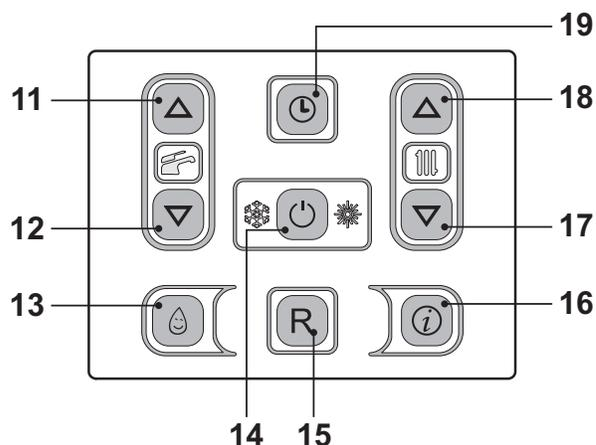
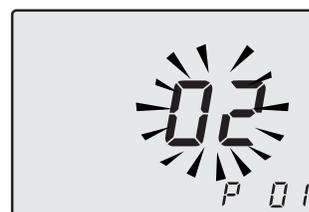

Fig. 7.28
Fig. 7.29
- Enter in "programming mode" by pressing keys 14 - 17 - 18 (Fig. 7.28) for 10 seconds at the same time until the letters **P01** are displayed on the LCD display, indicating that "parameter 01" (Fig. 7.29) has been activated.
- By pressing key 14 (Fig. 7.28) confirmation of the inserted value is obtained.
- Press keys 17 or 18 (Fig. 7.28) to exit without changing the value.